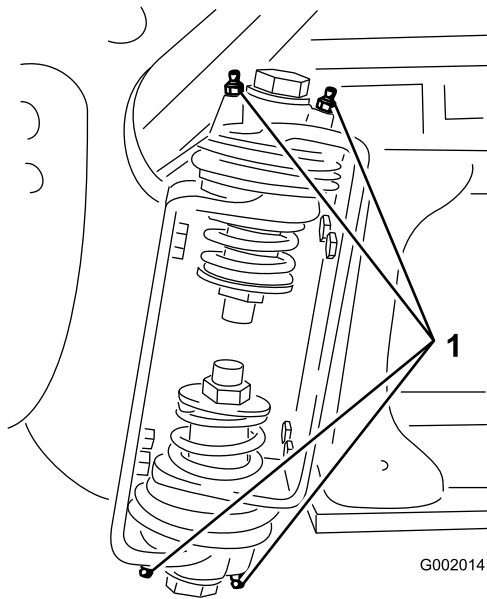

Figure 65
2. Pump grease into the bearing or bushing at each fitting (Figure 65).